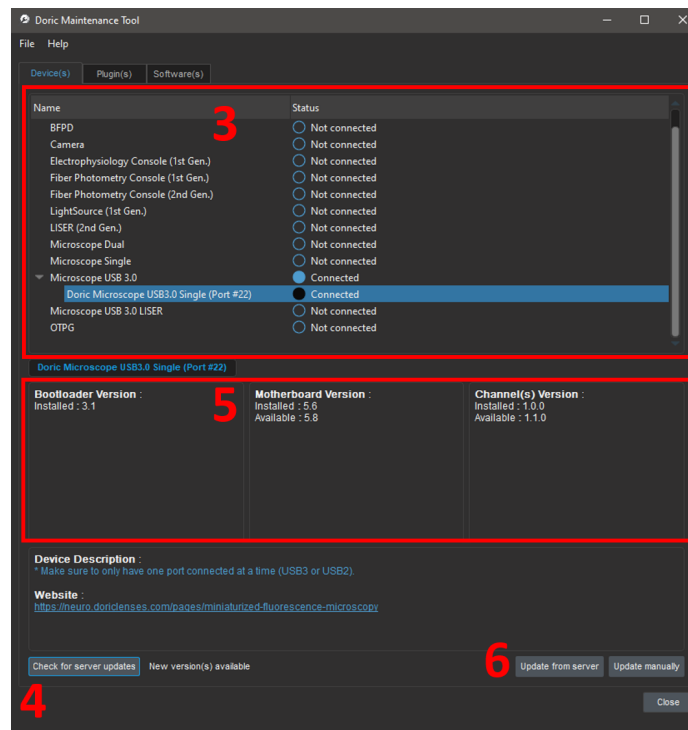

Figure 2.14: Doric Maintenance Tool home page
- In the list under **Name**, select the device to update (it's status need to be **Connected**) (Fig. 2.14).
4. Select **Check for server updates**. **Doric Maintenance Tool** will connect to the server and verify if an update is available (Fig. 2.14).
5. Under **Motherboard Version** and **Channel(s) Version**, the present version and the available versions are displayed (Fig. 2.14).
6. Select **Update from the server** to lunch the update. (In some case an update can be necessary without use the server version. In this case, a representative of Doric Lenses will sent you the update file and you can use **Update manually** in replacement of **Update from server**) (Fig. 2.14).